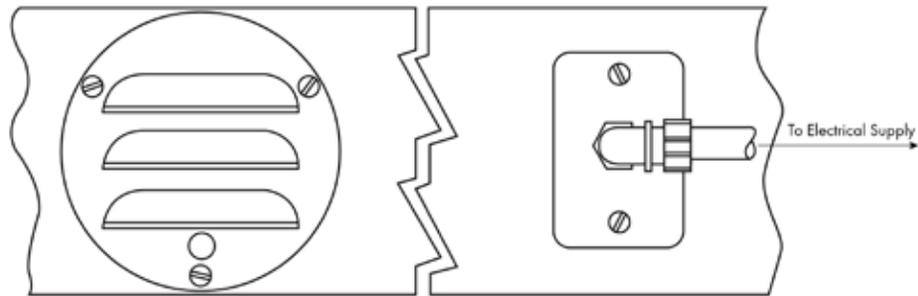

Fig. 3
6. With the ground screw (in the valve assembly) in the bottom position, place the louver over the valve assembly with the openings facing down and line up the screw holes in the louver, the valve assembly, and the gasket. While holding the parts lined up, place the valve assembly into the sleeve (Figure 3).
7. Spot through the three (3) holes and drill 1/8" hole for #8 sheet metal screws. Drive the three (3) screws and the inside assembly work is completed.
8. On the outside (warm side) of the freezer, assemble the louver, screen, flange, and gasket in the same manner as the inside parts were assembled and fasten with three (3) screws.